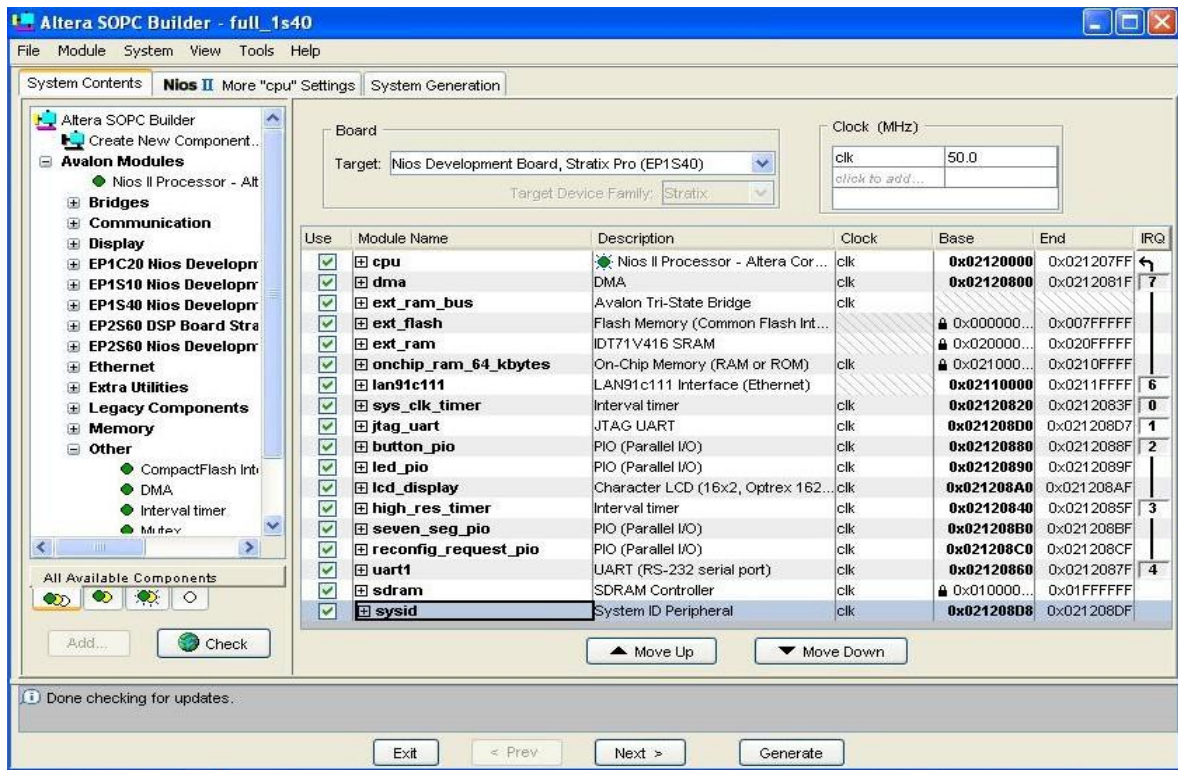

Figure 1: Original full_featured Platform in SOPC Builder
8. You can see all the components of the design example platform as shown in Figure 1.